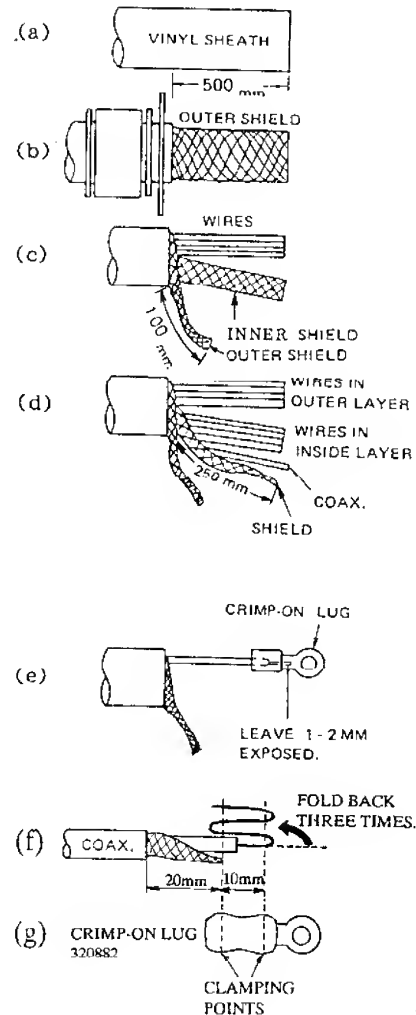

Fig.5 Fabrication of
4. Cut the cable leaving about 800mm from the cable gland, and fabricate it referring to Fig.5.
1. Being careful not to cut the outer shield, remove 500mm of the vinyl sheath. See Fig.5 (a).
2. Slide washer, rubber packing, washer and clamp plate of the gland over the cable. See Fig.5 (b).
3. Straighten the outer shield and separate the outer layer wires from those inside the braided shield (inner wires). See Fig.5 (c).
4. Take out the wires and coaxial wire from the inside layer. See Fig.5 (d).
7. Remove about 6mm of the vinyl insulation from the end of each wire. Fix crimp-on lug FV1.25-3 (red) to each wire by using a crimping tool. See Fig.5 (e).
8. Fabricate the end of the coaxial wire as shown in Fig.5 (f).
9. Fix crimp-on lugs 320882 (red) and FV1.25-3 (red) to coaxial cable and its shield, respectively. See Fig.5 (g).